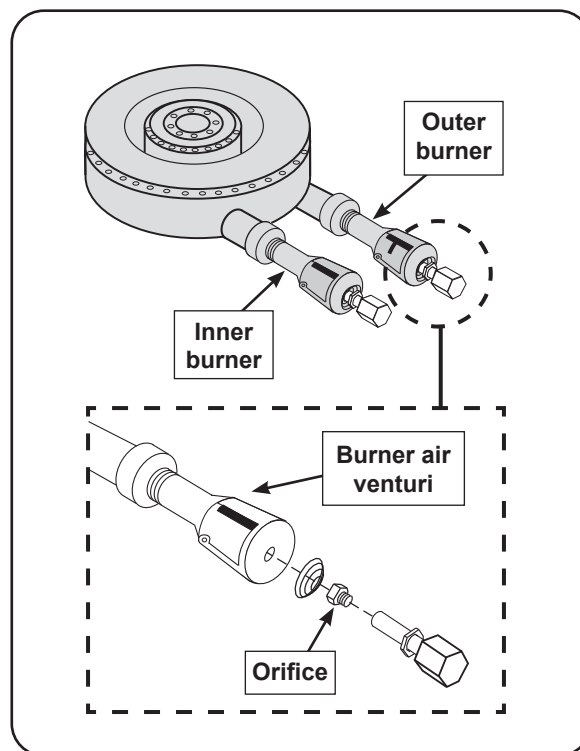

Fig. 53-1 Burner orifice orientation
2. Locate the orifices. The orifice size is stamped on each orifice face (see Fig. 53-1).